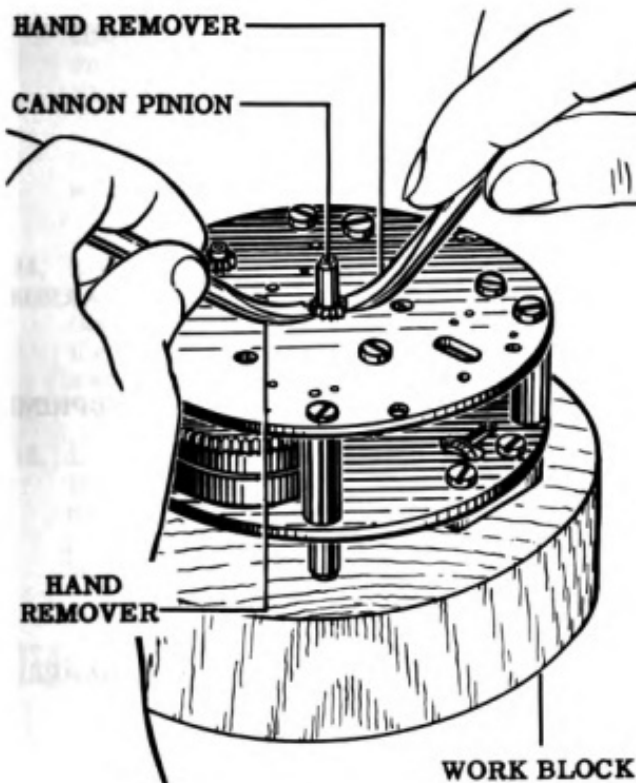

Figure 30
3. Using the special hand removers with felt pads (Tool No. 2A) as shown in Fig. 30, remove the cannon pinion by prying it off the center arbor.